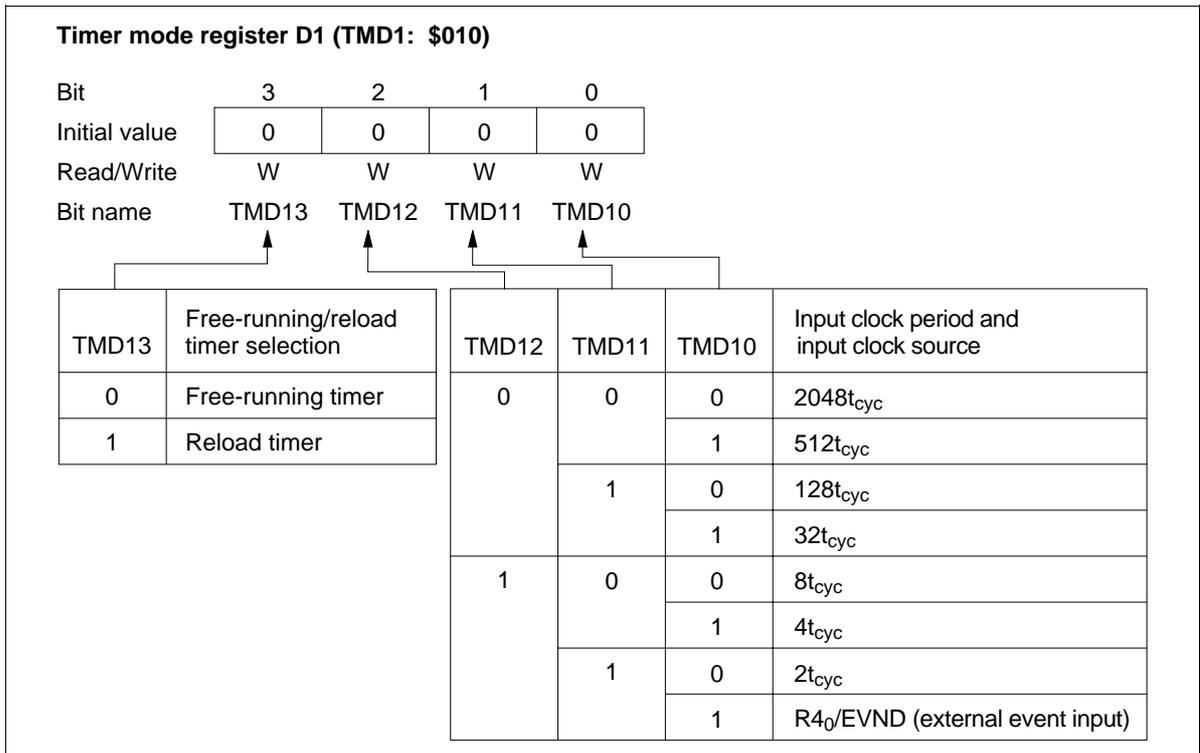

Figure 60 Timer Mode Register D1 (TMD1)
- **Timer mode register D1 (TMD1: \$010):** Four-bit write-only register that selects the free-running/reload timer function, input clock source, and the prescaler division ratio (figure 60). It is reset to \$0 by MCU reset.